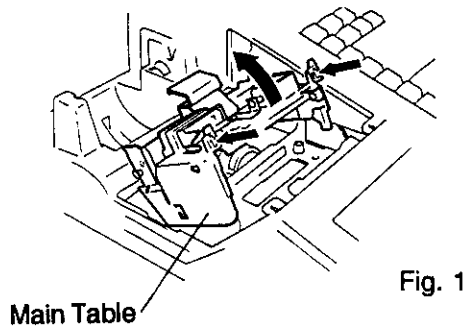

Fig. 1
2. Raise the Main Table with pushing the levers forward. (Fig. 1)